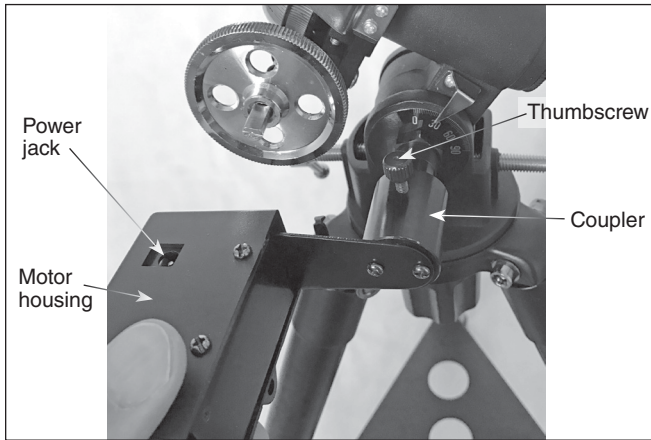

Figure 7. Install the motor by slipping the coupler over the anchor post.
6. Place the motor's (A) coupler over the anchor post, then lightly tighten the thumbscrew on the coupler (**Figure 7**).